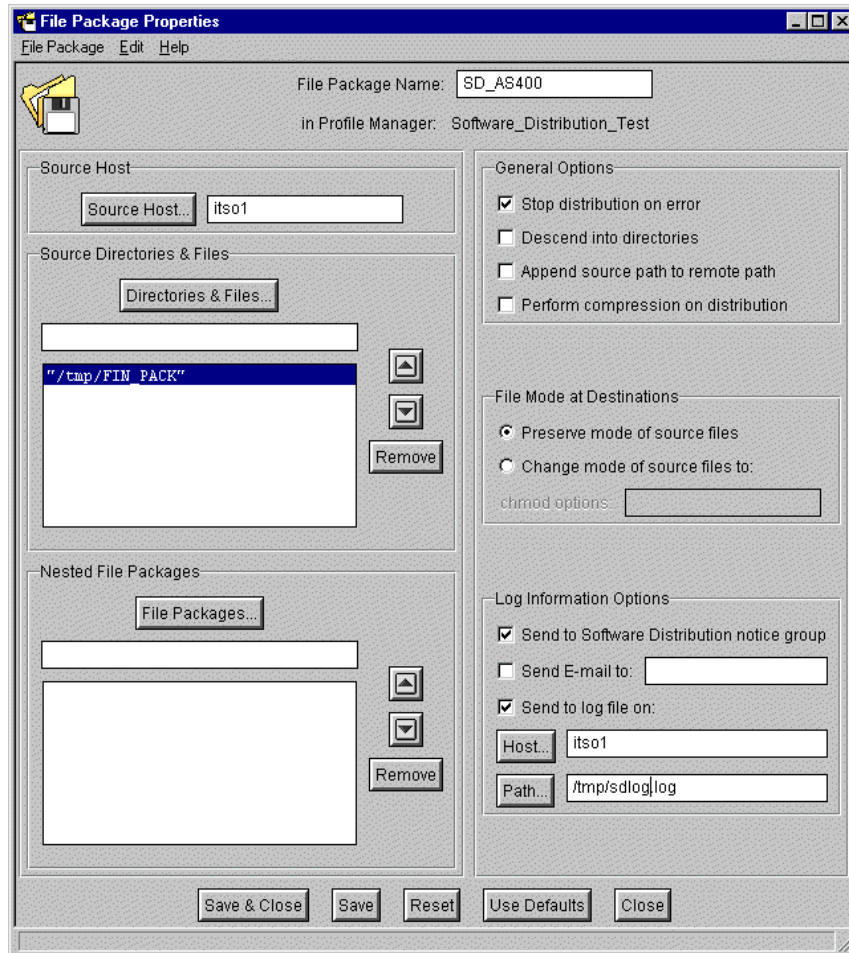

Figure 329. Software distribution properties
6. In the Source Files and Directories section, click on the **Directories and Files** button to select the file package to distribute. See Figure 329 on page 498.